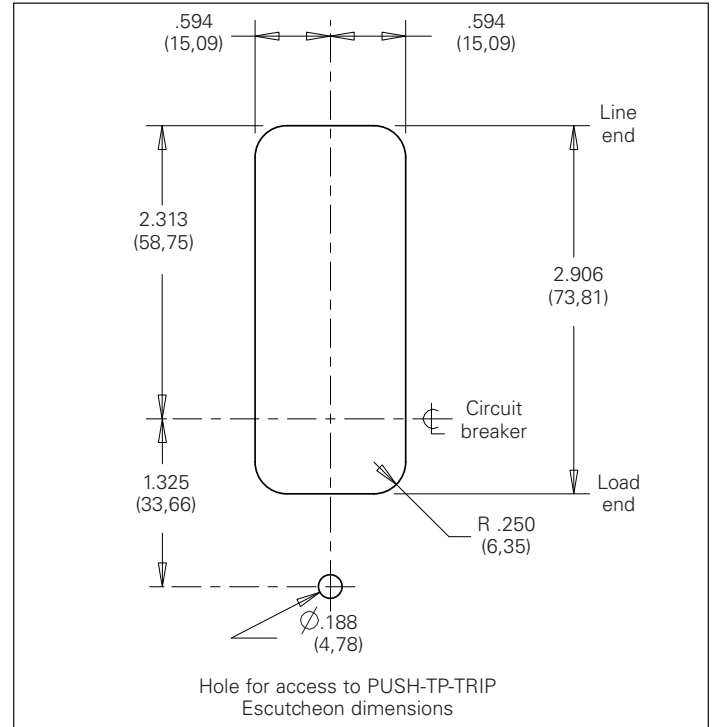
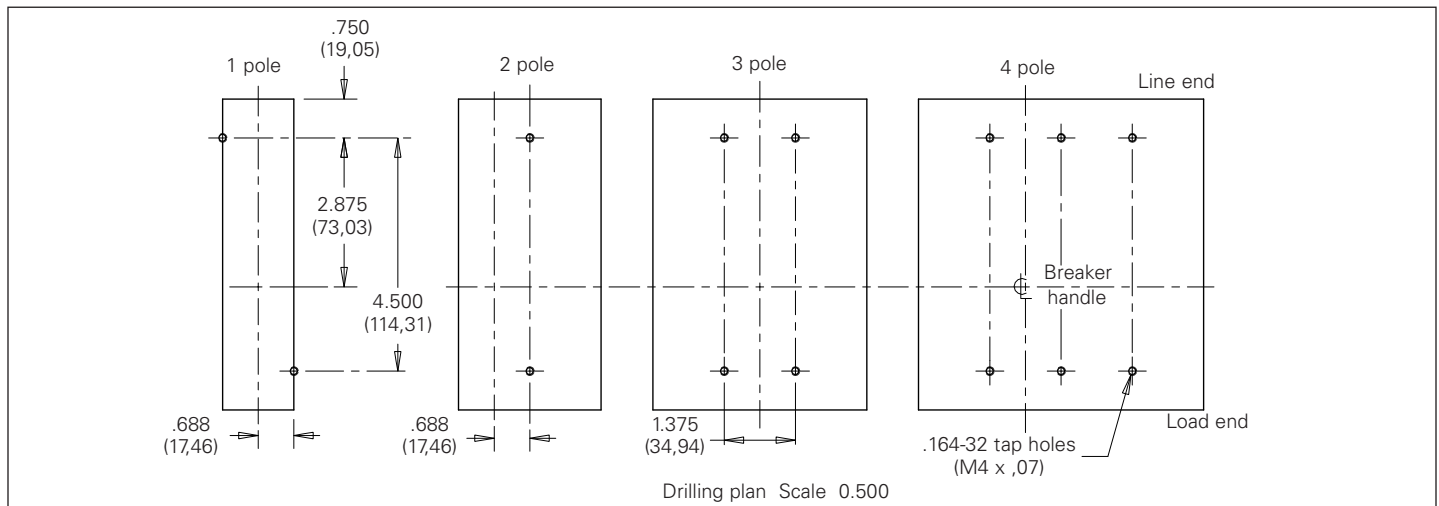

Figure 3. Circuit breaker escutcheon dimensions.
Figure 2. Circuit breaker mounting bolt drilling plans.
- a. For individual mounting panels, make sure that mounting panel is predrilled using the bolt drilling plan (see Fig. 2). For panel board mounting, only load end support mounting holes are required. For deadfront cover applications, make sure panel cover is cut out to correct escutcheon dimensions (see Fig. 3).